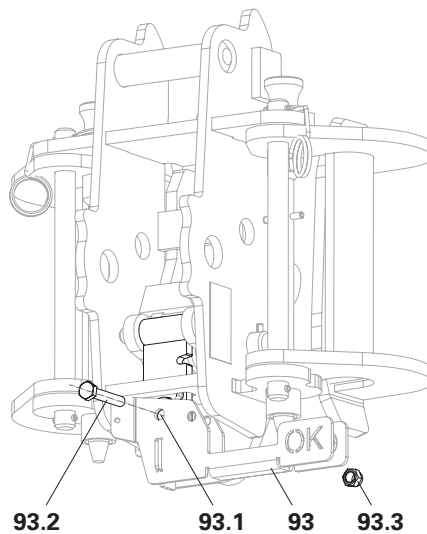
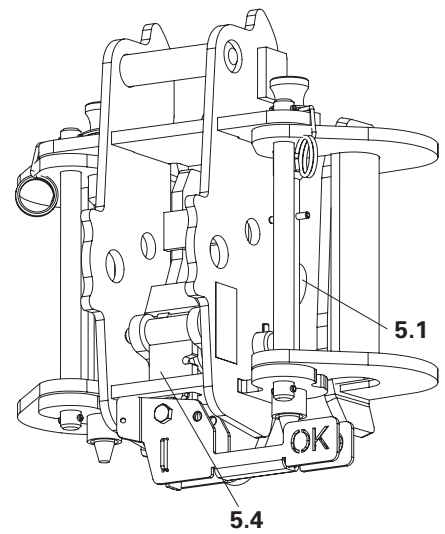

Fig. C5.12
Fig. C5.13
4. Insert bolt ISO 4014 M8 x 45-8.8 (93.2) through the holes of the Visual Aid Climbing Shoe RCS (93) and the adaptor (93.1) and fasten with nut ISO 7040 M8-8 (93.3). (Fig. C5.12)
- Do not tighten nut ISO 7040 M8-8 (93.3), otherwise the Visual Aid Climbing Shoe RCS (93) will not work.
- Assembly is completed (Fig. C5.13)